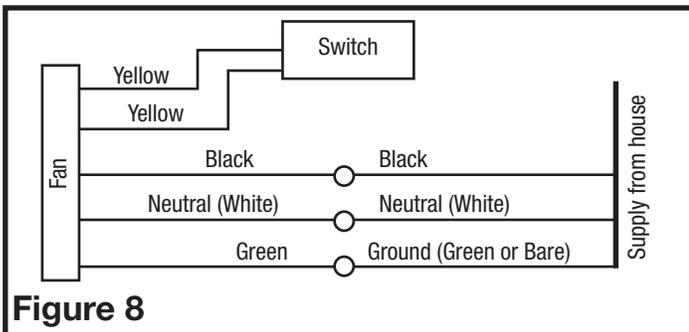

Figure 8
2. **Continuous Ventilation:** For two speed fans wired for continuous ventilation, connect the White wire of the fan to the White (Neutral) wire from the power source. Connect the ground wire from the house to the green wire from the fan housing. Connect the Black wire of the fan to the Black wire (Hot) from the power source. Using a properly grounded standard duplex toggle switch (such as Leviton 5224-2W, not included) connect the Black wire from the supply to one side of the top and bottom switch. Using a second properly grounded standard duplex toggle switch, connect the Hot Yellow wire from the fan to the input of the switch. Connect the second Yellow wire from the fan to the output side of the switch. Closing the switch will change from normal to high speed (**Figure 8**).